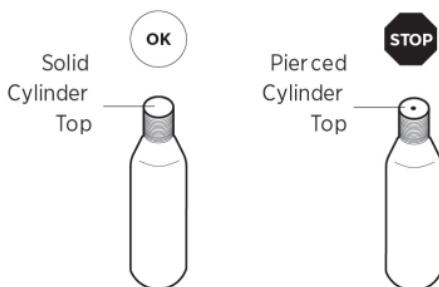

FIGURE 3 CO2 CYLINDER CHECK
2. Unscrew and remove the CO2 cylinder from the inflator and inspect its small end (see Fig. 3). If it is pierced, discard it and replace with a new cylinder. Make sure the CO2 cylinder is screwed hand-tight into the inflator. Failure to do so may cause the inflatable not to inflate (see "Re-arm" on P.9).
7. Check the new cylinder. Ensure that the CO2 cylinder has not been pierced (see Fig. 3).